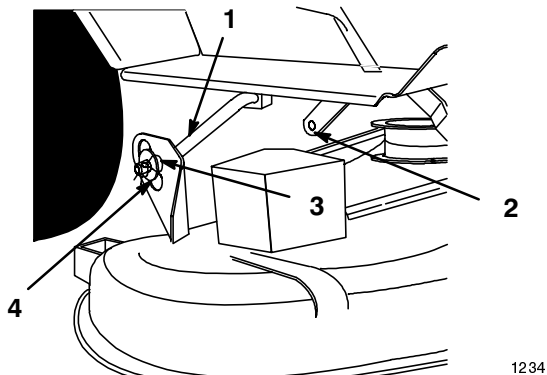

Figure 16
5. Remove hairpin cotter (2-9/16 in.) and washer (3/8 in.) from rear lift link and remove from attachment lift (Fig. 16).
6. Remove tow hairpin cotters (3-3/8 in.) and two washers (3/4 in.) from rear lift arms (Fig. 16).
7. Slide deck right, off rear lift arms (Fig. 16).